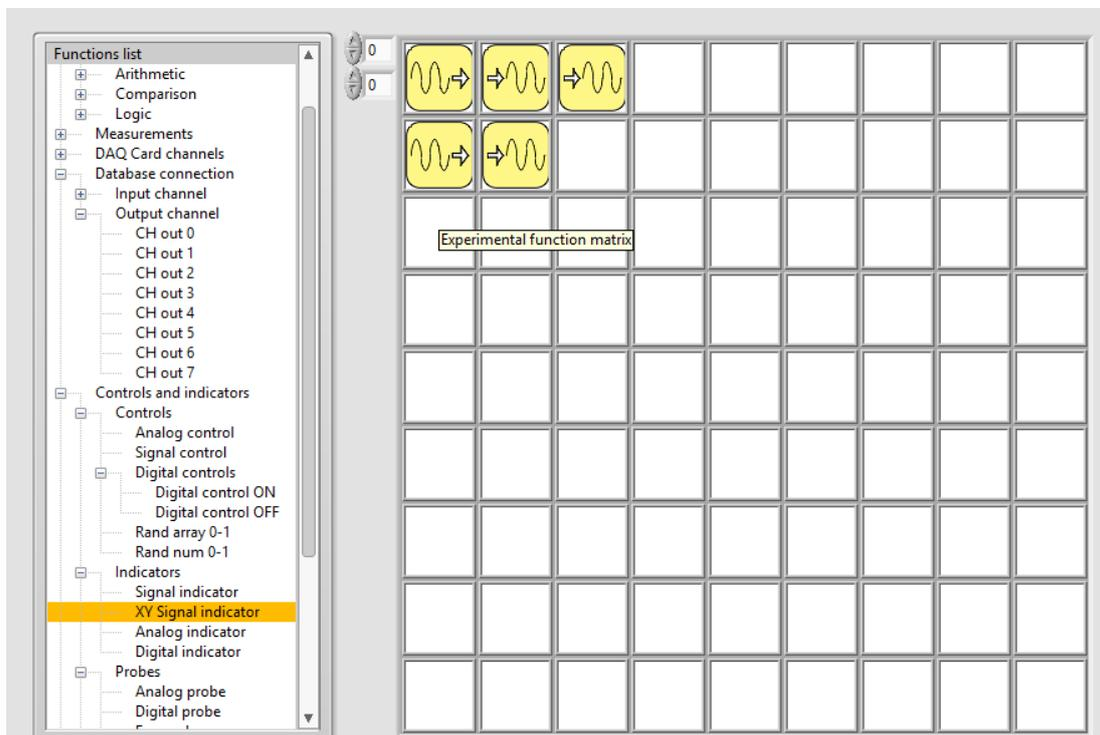
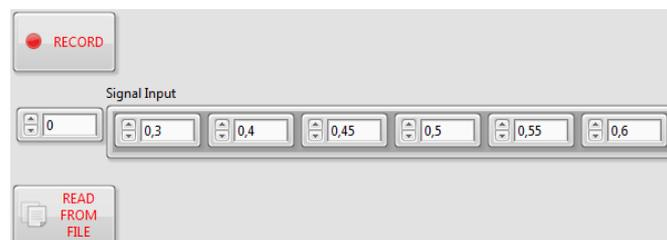
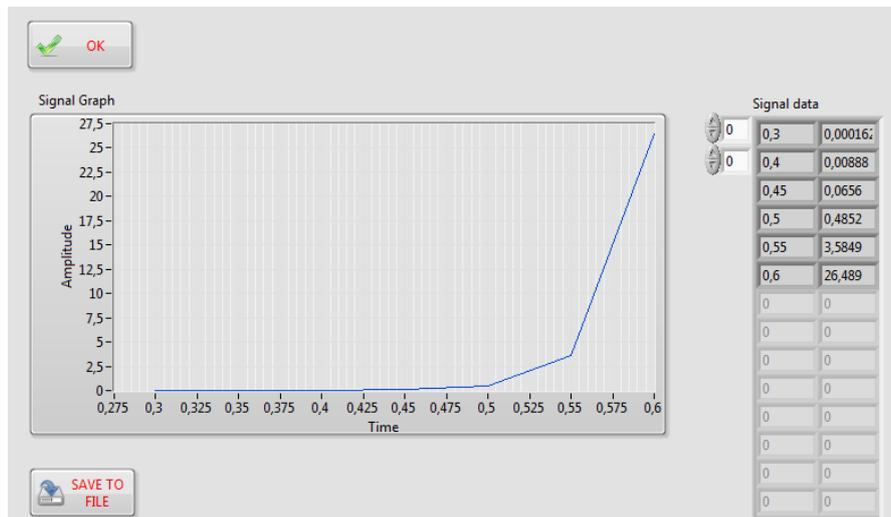

Figure 4.5: Selection of XY - Signal indicator
Figure 4.6: Entering values of V_d
Figure 4.8: Current - voltage characteristic displayed on 2D graph by XY Signal indicator function
- Selecting the **Signal Control** function, figure 4.5, opens a window where the values of the voltage V_d are written, figure 4.6.
- Using the **Signal Indicator** function, which is placed on the desktop next to Signal Control, Figure 4.5, the entered data on the CORELA platform is accessed.
- The procedure is repeated for the values of the diode current, Figure 4.5 and 4.7
- By selecting the function **XY- Signal indicator**, and its placement on the work-surface, figure 4.5, the display clearly shows the current - voltage dependence, figure 4.8.